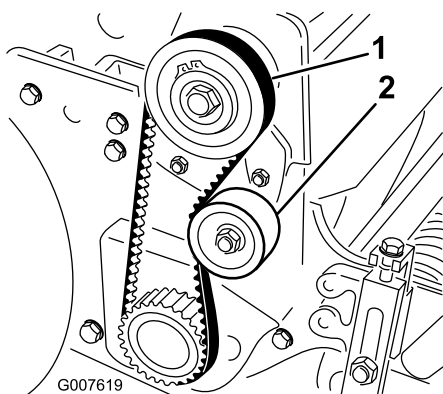

Figure 36
2. Check the tension by pressing the belt at mid span of the pulleys (Figure 36) with 18–22 N (4 to 5 lb) of force. The belt should deflect 6 mm (1/4 inch).
- A. Loosen the idler pulley mounting nut and pivot the idler pulley clockwise against the backside of the belt until you attain the desired belt tension (Figure 36).